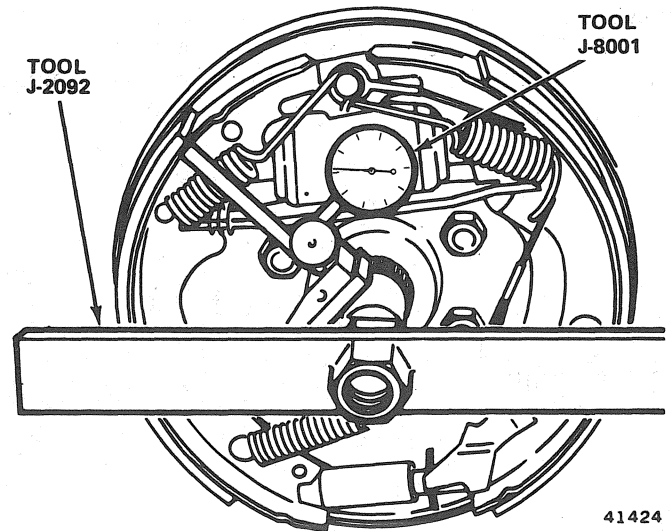

Fig. 2F-23 Measuring Axle Shaft End Play—CJ Models
(1) Strike end of each axle shaft with lead hammer to seat bearing cups against support plate.
(2) Attach Axle Shaft End Play Tool J-2092 to end of left side axle shaft. Mount dial indicator on support plate or tool, and check end play while pushing and pulling on axle shaft (fig. 2F-23).